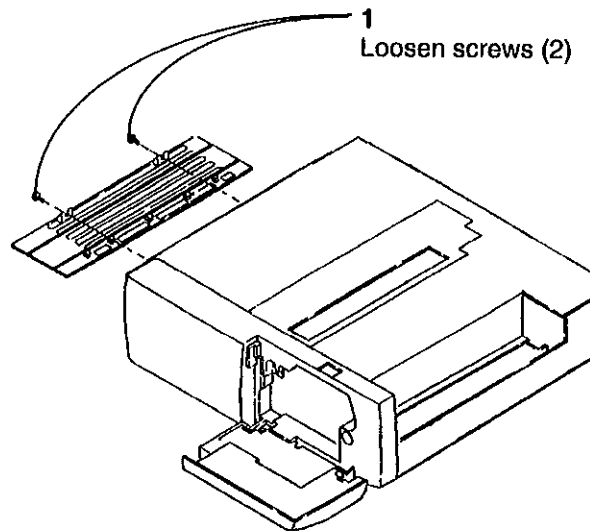

Figure 1. Removing the Bottom Cover
- 1 (Figure 1) Loosen the two screws, and remove the bottom cover.